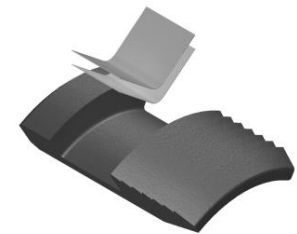

Fig. 3
**NOTE10:** Install two (2ea) springs per slip (Fig. 3).